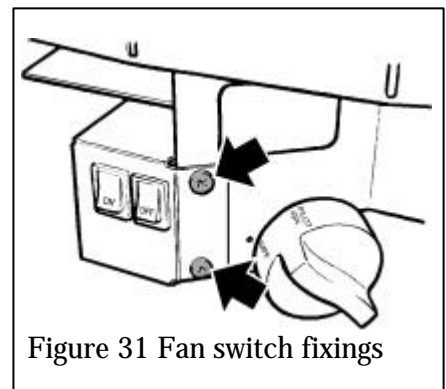

Figure 31 Fan switch fixings
**13.5.6** To gain access to the pilot pipe connection, detach the fan switch bracket from the burner control bracket by removing two screws (see figure 31).
**13.8.1** Detach the fan switch bracket from the burner control bracket by removing two screws (see figure 31). Carefully pull clear of the burner unit.